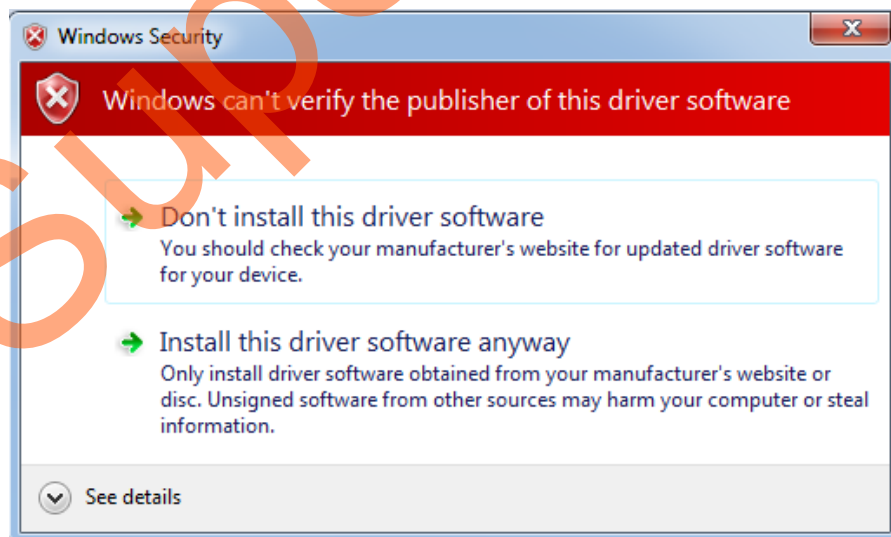

Figure 51 • Windows Security
4. Click **Install this driver software anyway** if the window appears as shown in Figure 51.